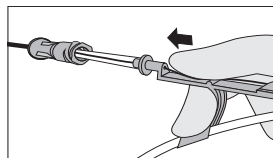

Figure 2
- Using thumb, retract guidewire tip. Place tip of Arrow Advancer – with guidewire retracted – into introducer needle (refer to Figure 2).